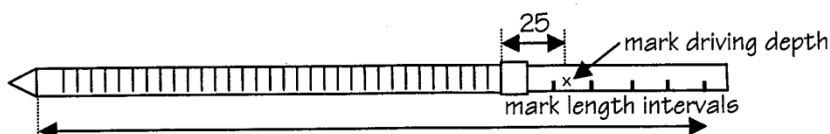

Figure 5. Mark length intervals and the endpoint on the casing before driving the well into the ground.
- Measure the well from the bottom, marking the casing at convenient intervals (e.g. 10 cm, Fig. 5). Also mark the casing at the point at which the well driving should stop, i.e., ~25 cm above the intake.